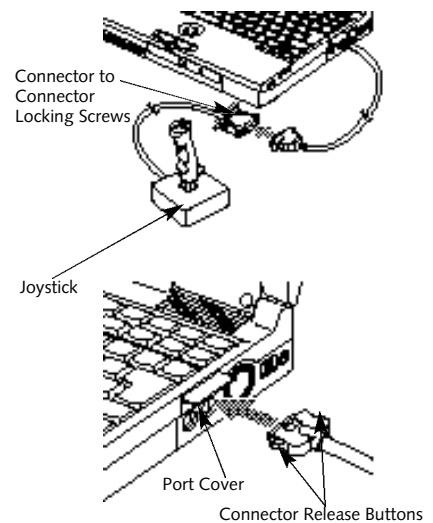

Figure 4-13 Installing a MIDI/joystick Device
3. Open the MIDI port cover on the right side panel of your notebook, (Figure 4-13), by
4. Align the connector of the adapter cable with the connector towards the body of your notebook. (Figure 4-13.)
3. Squeeze the releases on the sides of the MIDI device connector together. (The connector is next to the body of your notebook.) (Figure 4-13.)